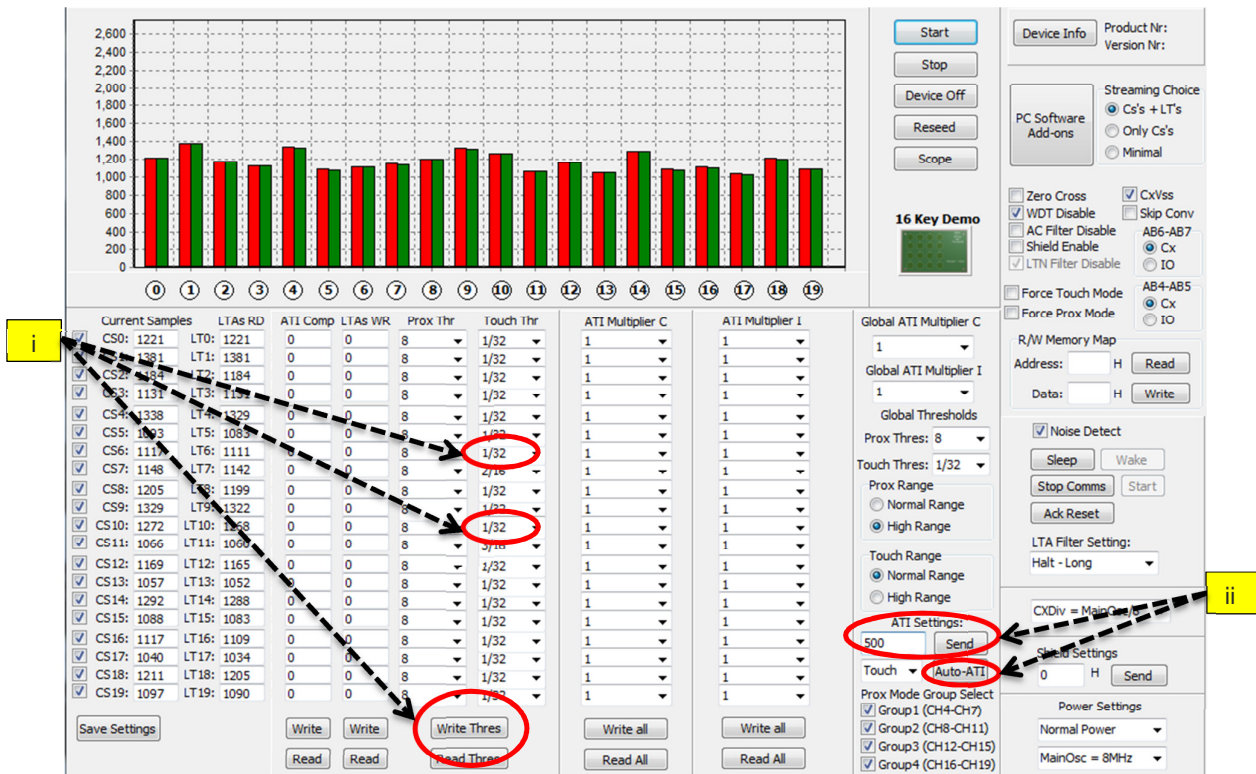

Figure 3.4 Adjusting individual channel thresholds
### 3.2.1 Example (See Figure 3.4 and Figure 3.5):
- (i) To change the touch threshold on individual channels, click on “Read Thres”. This will display the current settings. Change the threshold setting of the channel in question by selecting the desired value from the drop down box, and click on “Write Thres” as indicated in Figure 3.4.